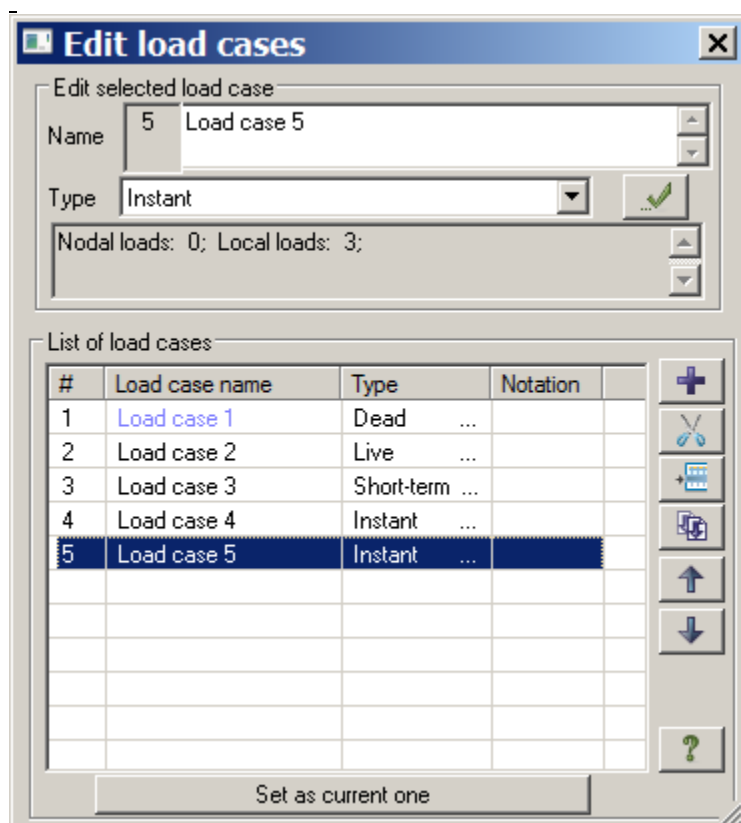

Figure 21.20 **Edit load cases** dialog box
- ⇒ On the **Create and edit** ribbon tab, select the **Loads** panel and click **Edit load cases** . The **Edit load cases** dialog box is displayed on the screen (see Fig.21.20).